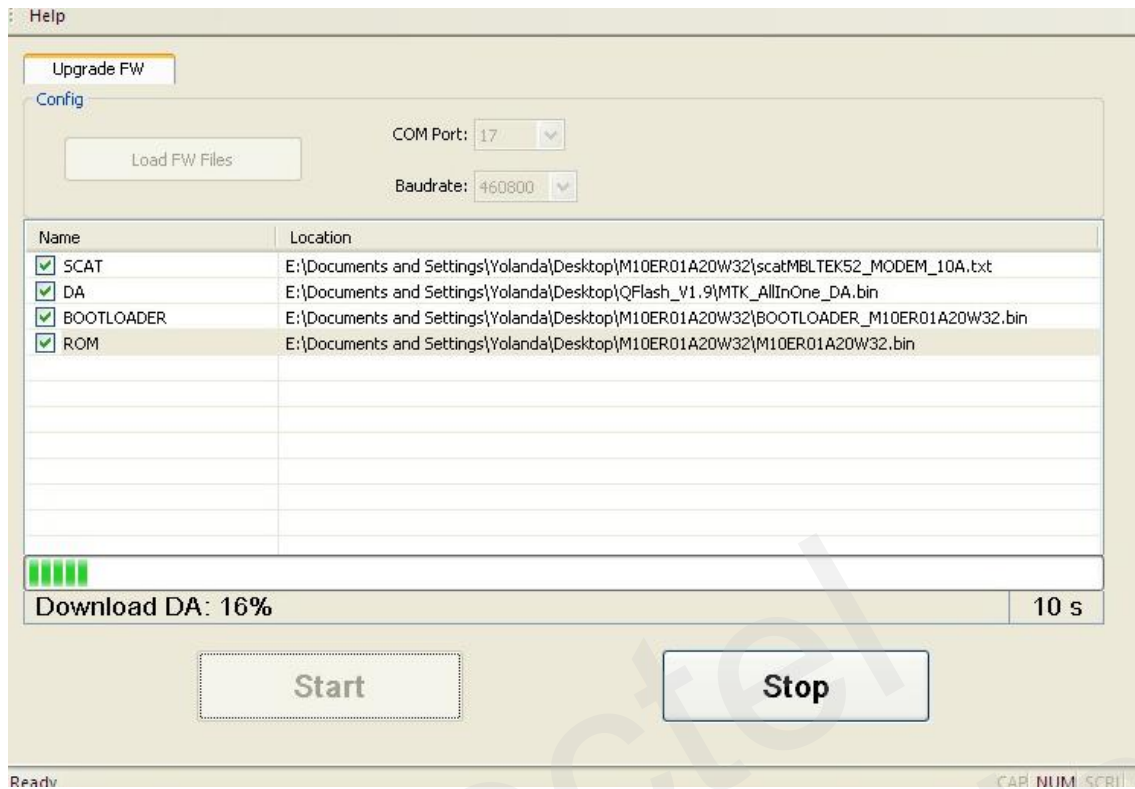

Figure 11: Start to Upgrade after Restarting the Module
Step 2: Then restart the module by switching the D/L to “ON” after clicking “**Start**” button in 30 seconds. It will start to upgrade the firmware as shown in Figure 11.